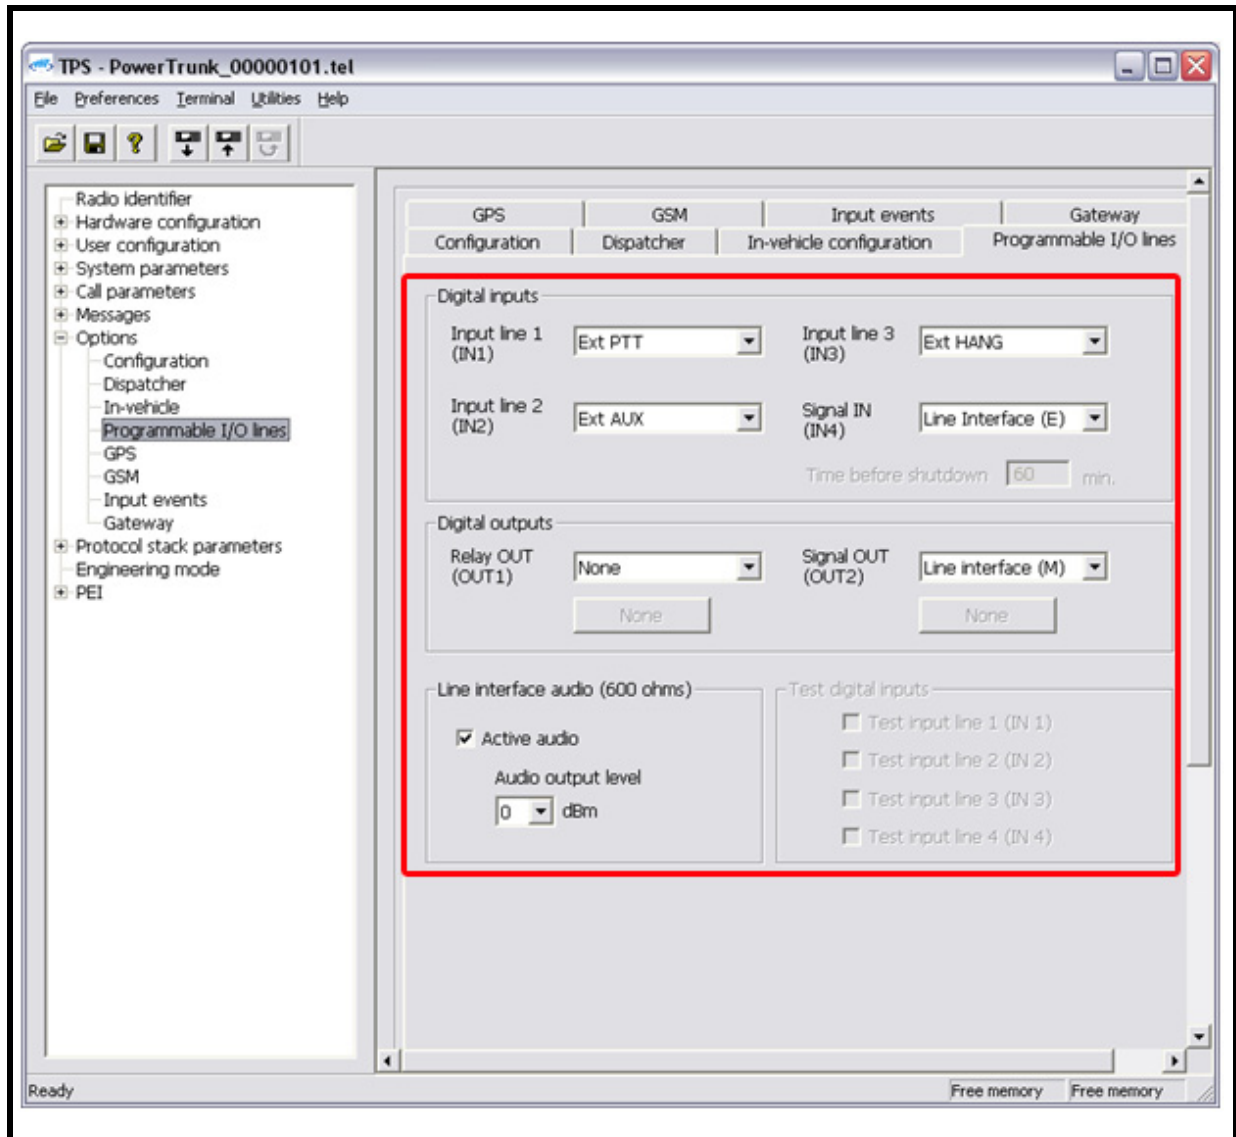

FIGURE 5. Power Trunk Example
- a. Configure all fields to **match Figure 5**.